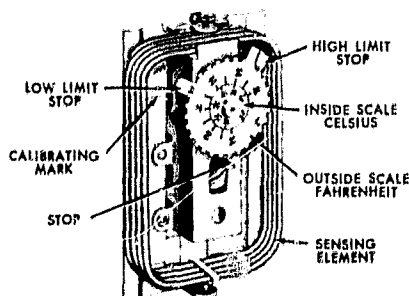

Fig. 2 — Interior of Series T26. Note how element is wrapped around inside of thermostat for maximum sensitivity. Integral adjustable high and low limit stops.
- Low and high limit dial stops — concealed, adjustable throughout set point range. Can be set for locked dial. See Fig. 2.
steel cover with "tawny silver" finish. The faceplate is dark brown and light brown with aluminum numbers and graduation marks. The internal dial on these thermostats has a dual Fahrenheit-Celsius scale, see Fig. 2. When a faceplate with Celsius thermometer and set point scale is used the thermostat is totally Celsius.
The liquid charged sensing element is formed to achieve maximum sensitivity to surrounding air temperature changes (see Fig. 2). Coupled with a highly efficient diaphragm and lever mechanism, the element operates a totally enclosed Pennswich contact unit for close differential and dependable switching action without the use of "heat or cool" anticipators.